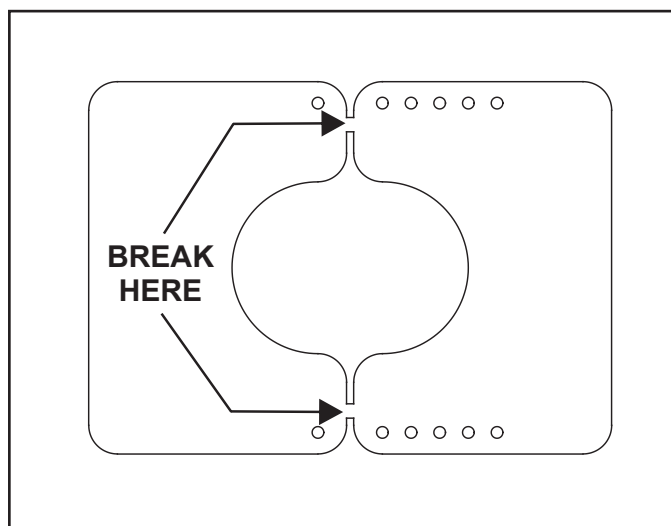

Figure 4.16 Break the Exhaust Restrictor
2. Break the flue restrictor into two pieces. Do this by bending the part back and forth until it breaks. See Figure 4.16.
1. Break the flue restrictor into two pieces. Do this by bending the part back and forth until it breaks. See Figure 4.16.